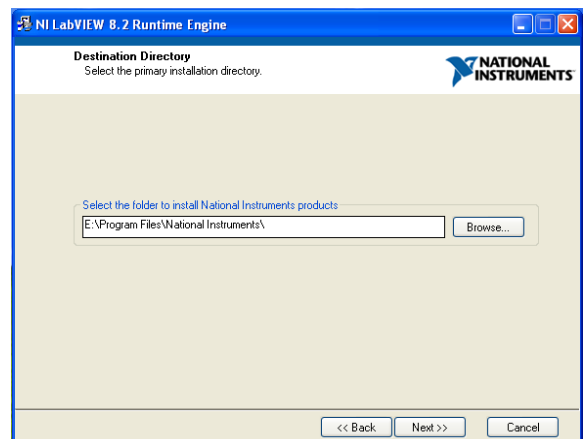

Figure 13. Destination Directory
4. When the screen in Figure 13 appears, click **Next >>** to accept the default directory for the installation.